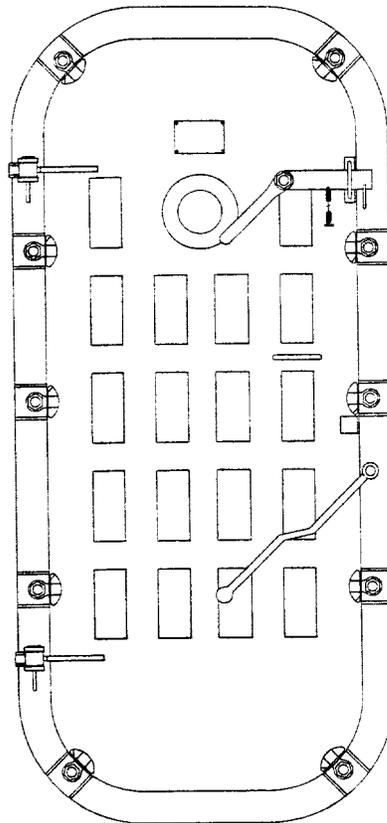
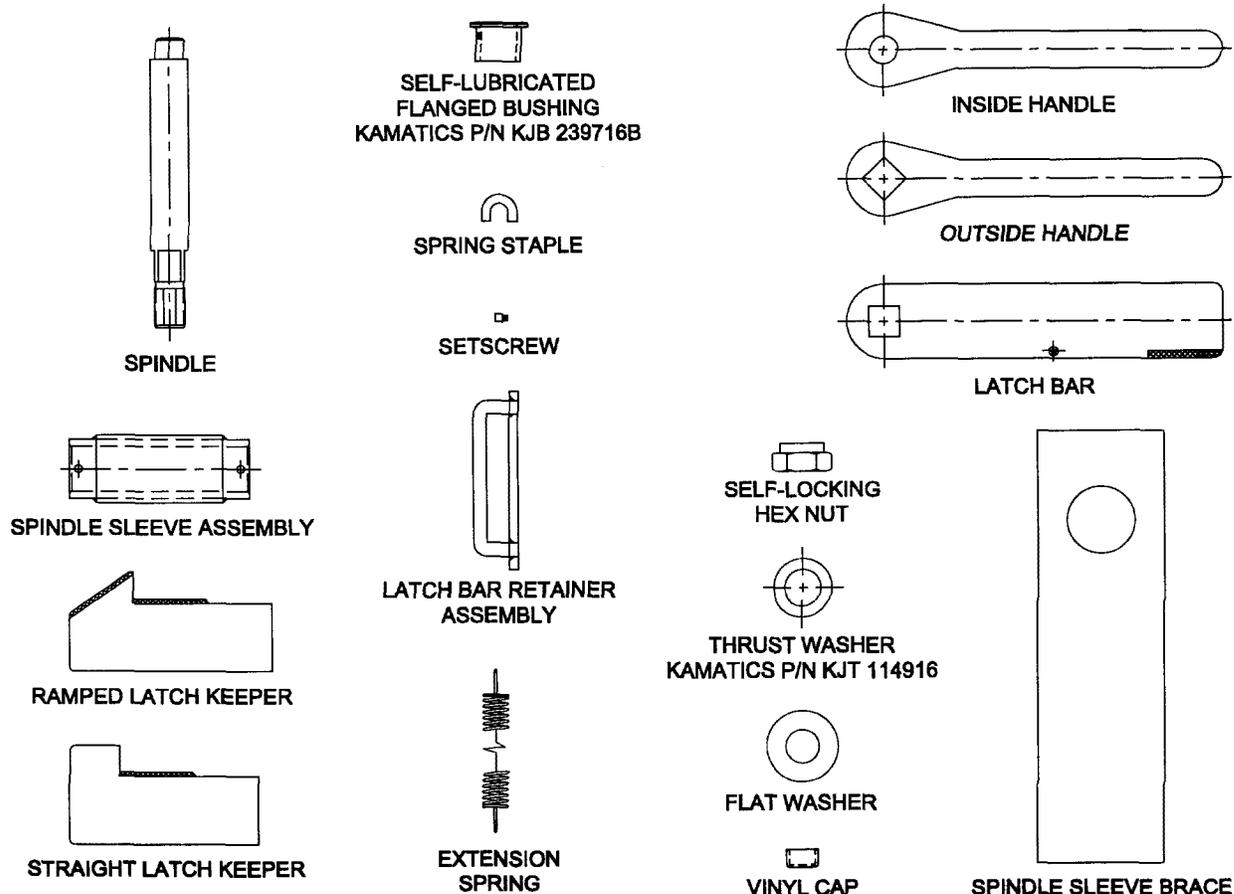

Figure 6-1. Door Latch Device
Figure 6-2. Latch Device Assembly Replacement Parts
With the exception of the keeper, parts for the CPS latch and the dog assist latch are identical, and are illustrated in figure 6-2. The latch is designed to require little maintenance. The two flanged bushings used are self-lubricating and are the exact same bushings used in the quick-acting door operating handle sleeve. The bushings are equipped with an external O-ring and an internal T-seal to provide a watertight seal for the spindle sleeve. The commercial off-the-shelf type extension spring is externally mounted and easily repaired or replaced. All components of the latch assembly are CRES 316 and do not require preservation. Replacement parts are available in the Navy Stock System and can be identified on the applicable Allowance Parts List (APL).
- b. See figure 6-1 and figure 6-2 for identification of components, and inspect latch for the following: